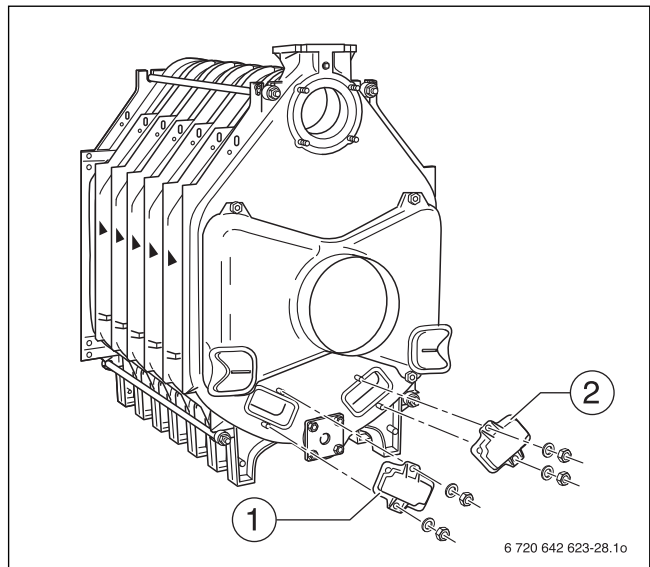

Fig. 30 Fitting the cleanout cover
- ▶ Screw the cleanout covers with washers and nuts back onto the rear section (→ Fig. 30, [1 and 2]).